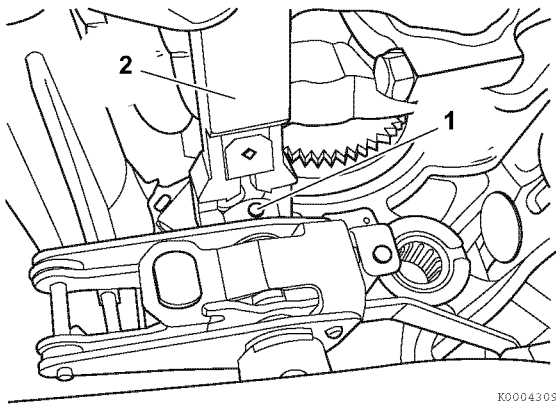

Figure 6-84
3. Remove the tapered pin (1, **Figure 6-84**) that fastens the governor lever to the throttle shaft using the special throttle shaft pin removal tool (2, **Figure 6-84**). See *Special Service Tools* on page 6-19 for the appropriate tool number.
4. Position the pin removal tool on the throttle shaft as shown (**Figure 6-84**).